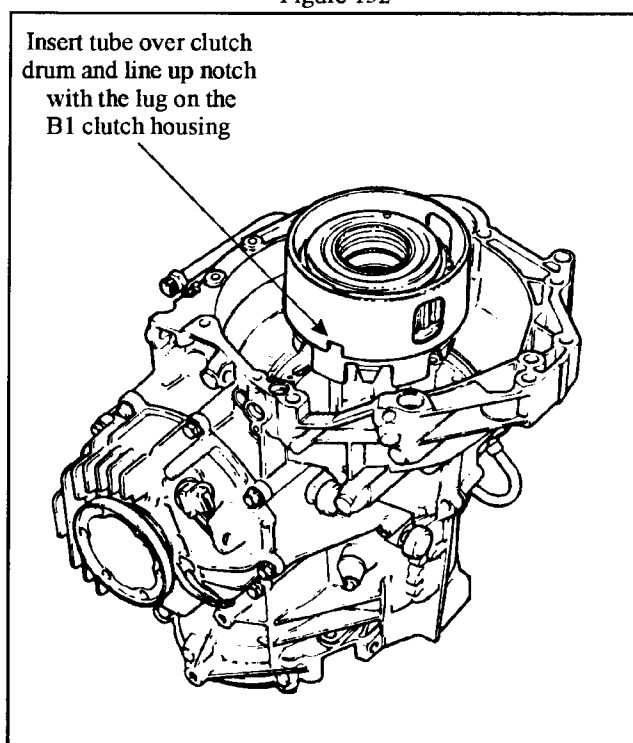

Figure 153
28. Install the K2 drum into the case, and twist until the clutches are splines onto the K1 drum (See Figure 153).
29. Insert the hollow supporting tube into the case over the K2 drum, and line up the notch in the tube with the lug on the B1 clutch housing (See Figure 153).